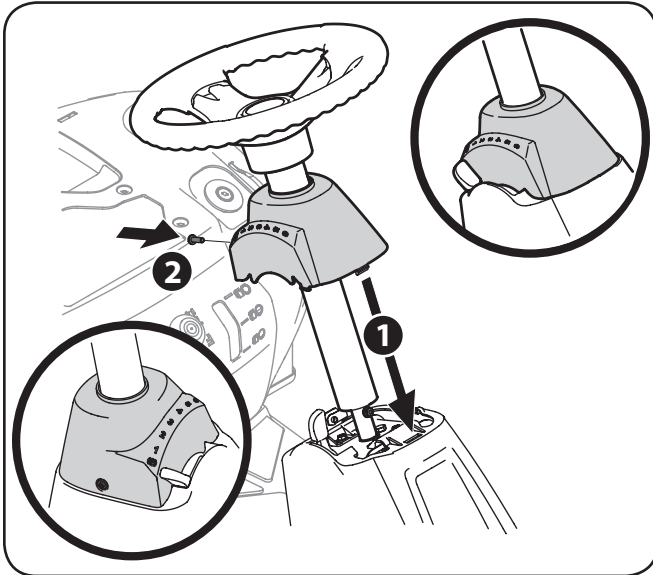

Figure 3-3
6. Slide the Pedestal cap down onto the tractor (1) and clip into place. Secure the pedestal with the hex screw (2) from the hardware pack. See 6. Slide the Pedestal cap down onto the tractor (1) and clip into place. Secure the pedestal with the hex screw (2) from the hardware pack. See Figure 3-3..